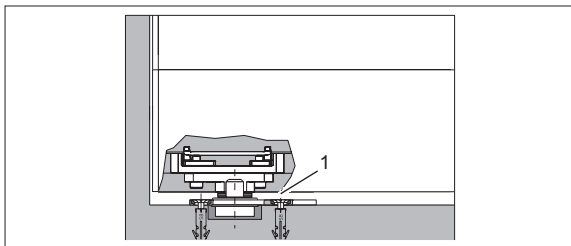

Fig. 36 Installing the eccentric bushing
Wear protective glasses. Drill 30 mm-deep on the drill hole using a 25-mm hole saw (Fig. 36).
5. Wear protective glasses. Drill holes on the markings using an 8-mm drill (Fig. 36). Drilling depth depends on the dowel length.
7. Insert dowels into the 8-mm holes (Fig. 36).
8. Insert the eccentric bushing into the holes (Fig. 36/1).
10. Screw the eccentric bushings on the floor with screws and dowels (Fig. 36).